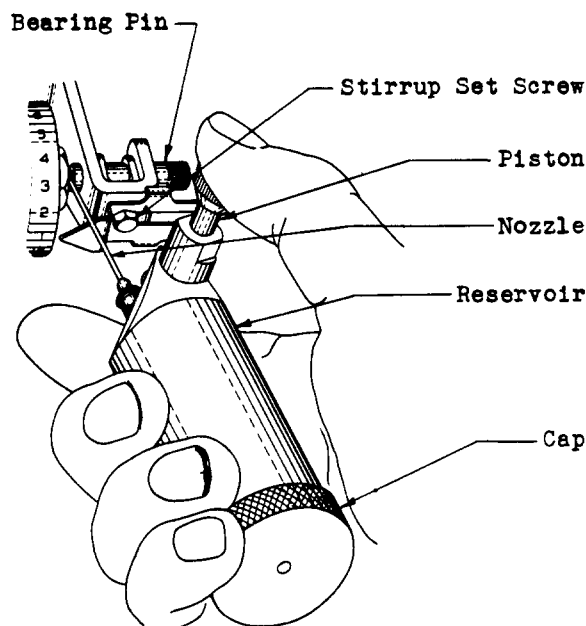

Fig. 10 – Method of Lubricating Cam Shaft Bearing at the Stirrup End with the No. 353-B Lubricator
(2) When the cam shaft bearing requires lubrication, use the No. 353-B lubricator. Before doing any lubricating, examine the lubricator, see that it is filled and working properly. If the lubricator fails to eject the lubricant properly when the piston is depressed, it is an indication that the tool is either empty or that there is an air pocket beneath the plunger. In this case it will be necessary either to refill the tool or to follow paragraph 8.
(4) See that the Veedol medium cup grease is in a container having a minimum depth equal to the length of the reservoir of the lubricator. Take care that the air bubbles have been worked from the grease and that the top surface is approximately flat.
(5) Place the rear end of the reservoir on top of the grease and depress the lubricator until all of the air has been forced from the reservoir through the screw hole at the top and the grease starts to come out.
(6) Replace the screw and the nozzle, withdraw the lubricator from the grease and wipe off the excess lubricant. Place the plug in the reservoir with the rib out and, while applying pressure to the plug, operate the plunger repeatedly. This will eject enough lubricant to allow space for the plug as well as remove any air bubbles that may be trapped at the nozzle end of the lubricator.
(7) Replace the cap and tighten it against the plug.
(8) *To remove air pocket* remove the cap and apply pressure to the plug as covered in paragraph (6), at the same time operating the plunger until grease begins to flow again.
(10) In removing the lubricator, draw the nozzle over the bearing surface of the cam shaft so that the lubricant will be deposited on the bearing surface in the manner shown in Fig. 10.